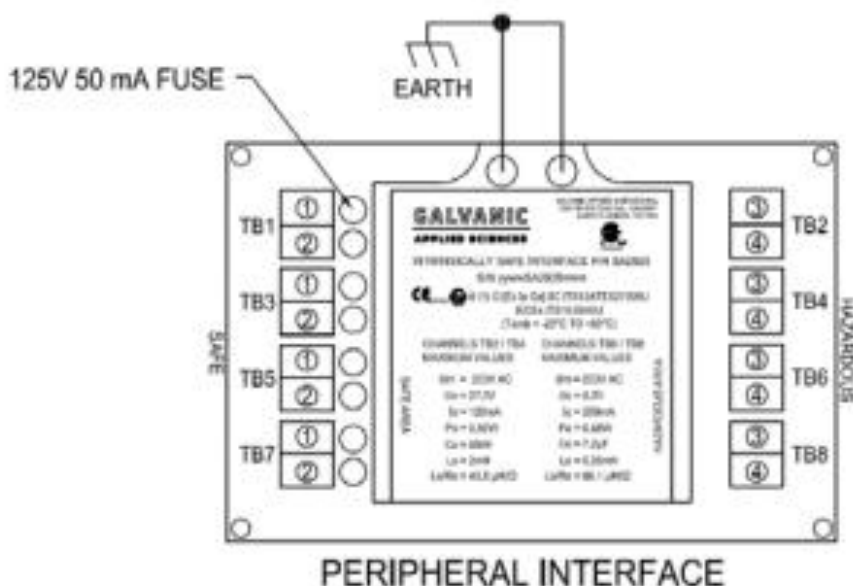

Figure 3: Intrinsically Safe (IS) Barrier
2.2.4 Intrinsically Safe (IS) Barrier (D1 Model Only)
The intrinsically safe (IS) barrier is mounted in the top left corner of the control enclosure of AccuLase-GPA™ D1 control enclosure. The intrinsically safe barrier connections are shown in Figure 3.